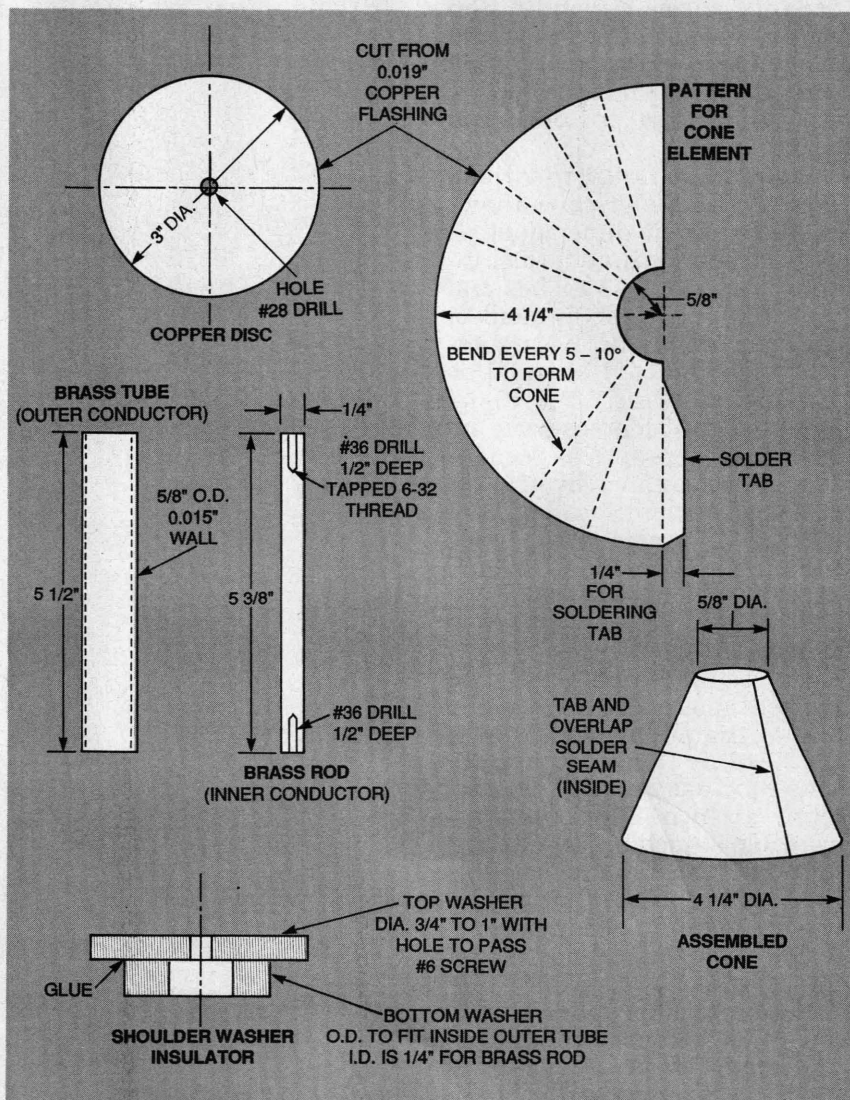

FIG. 2—CONSTRUCTION DETAILS for a 700-2000-MHz UHF discone antenna.
Figure 1-a is an idealized sketch of a true discone antenna and its basic dimensions. It was determined that the disc diameter should be 3 inches and the length of a side element of the cone should be $4\frac{1}{4}$ inches. The angle θ (Fig. 1-b) could be any angle between 25 to 40 degrees, so 30 degrees was selected for a practical reason. The space created by the insulating washer (S) will be $\frac{1}{8}$ of the inside diameter of the brass tube (Fig. 2) or about $\frac{1}{8}$ inch (thickness is not critical).
The disc and cone were cut from .019 gauge copper flashing stock (Fig. 2) purchased from a local plumbing supply house. Since the angle selected is 30 degrees, a half-circle pattern is needed to form the cone. Cut the cone and disc according to pattern. Allow a little overlap tab
as shown in Fig. 2 to allow for soldering. Use shears and wear heavy gloves as copper tends to cut with sharp razor-like edges. File all edges smooth.
Make a shoulder-washer insulator as shown in Fig. 2 from two plastic washers. The top larger washer should be 3/4-inch diameter by 1/8-inch thick and the center hole should be large enough to pass a 6-32 screw (#28 drill hole), but not larger